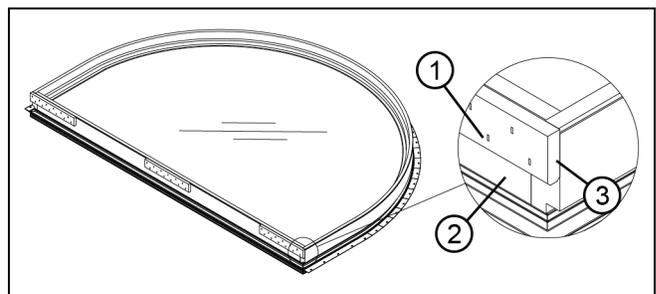

Figure 37
1. Lay frames on a flat surface in the desired mulling configuration (interior side up). Remove nailing fin from head jamb of inswing door. Remove shipping blocks from sill of ELALDGRT. Attach additional mull filler blocks to the ELALDGRT 4 9/16" sill as needed, flush to the interior, with 3/16" x 1" staples. See Figure 37.